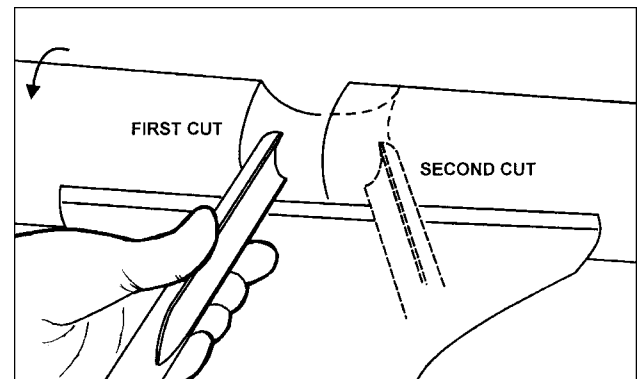

Fig. 18
3. With the flute facing the opposite direction, repeat step 1 for other side of cove. Stop at bottom of cut, see Figure 18.